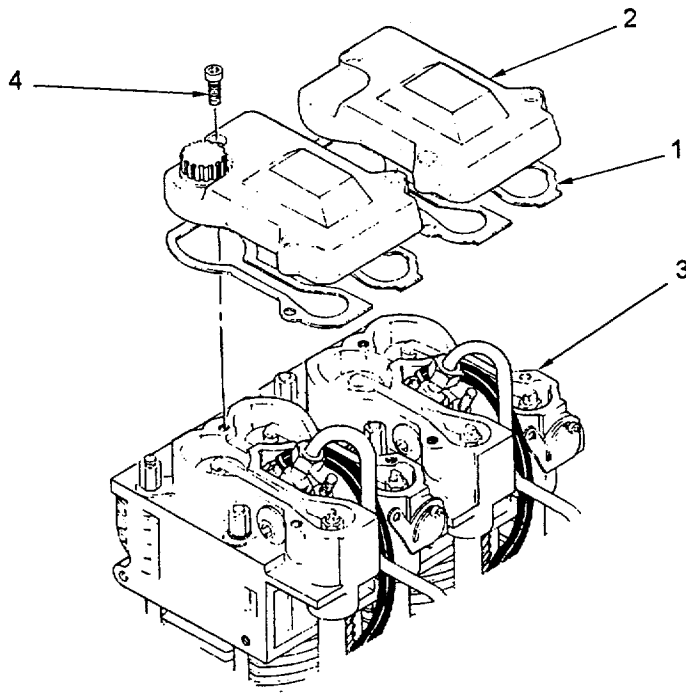

Figure 6-46. Valve Cover Installation
6.4.22 Install Valve Covers. (Refer to figure 6-46.)